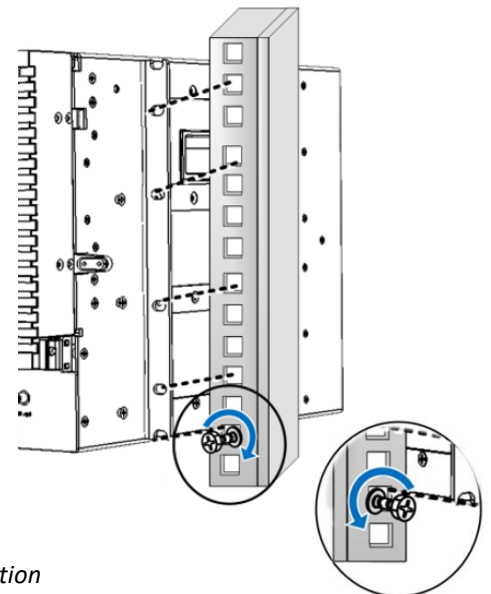

Figure 11. Example of MRU Chassis Rack Installation
3. Referring to Figure 11 secure the units' rack ears to the rack frame as follows: